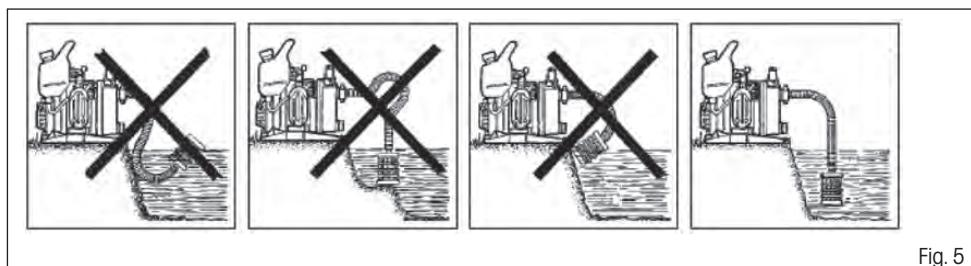

Fig. 5
- ❖ Install the pump correctly (fig. 5).